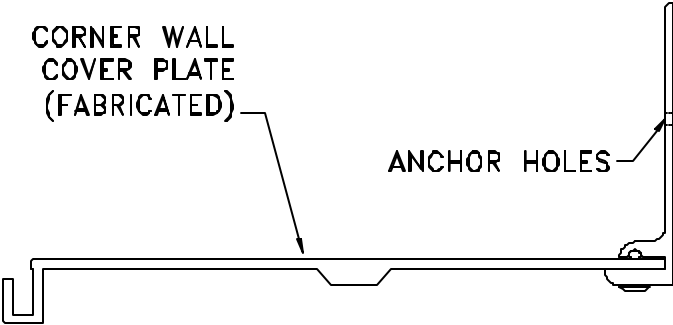

Figure 6
- STEP 11.** If necessary, drill the holes into the corner wall cover plates at the locations marked in Step 9 and Step 10 (see Figure 6).